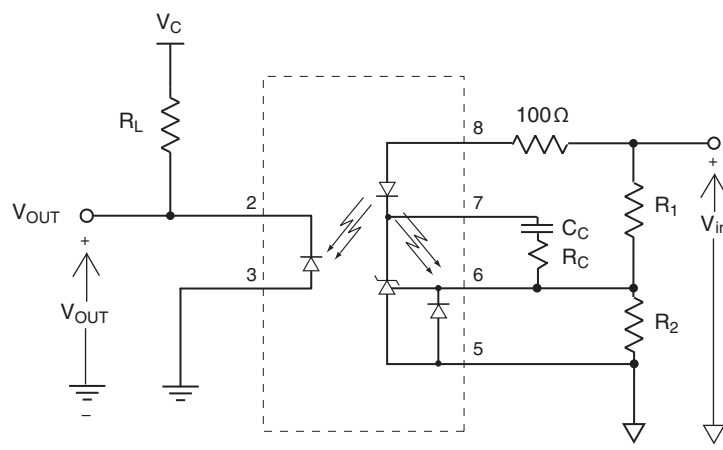

Fig. 6. Power Supply Feedback Application Circuit
2. The dynamic impedance is defined as $|Z_{OUT}| = \Delta V_{COMP}/\Delta I_{LED}$, for the application circuit in Figure 6, $|Z_{OUT}| = K_1 R_1$.
Setting the gain for the LIA120 is accomplished simply by setting two resistors. The application circuit in Figure 6 shows a resistor divider feeding the FB pin, so the operating conditions for the gain are governed by: